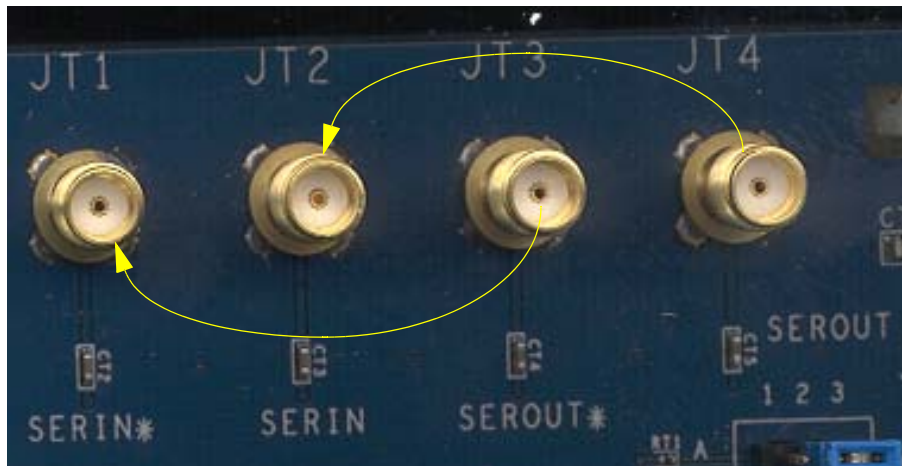

Figure 14. Coaxial Cable Connection for External BIST Mode
1. Before performing the test, loop a coaxial cable from INx1± to OUTx1± as shown in *Figure 14*.